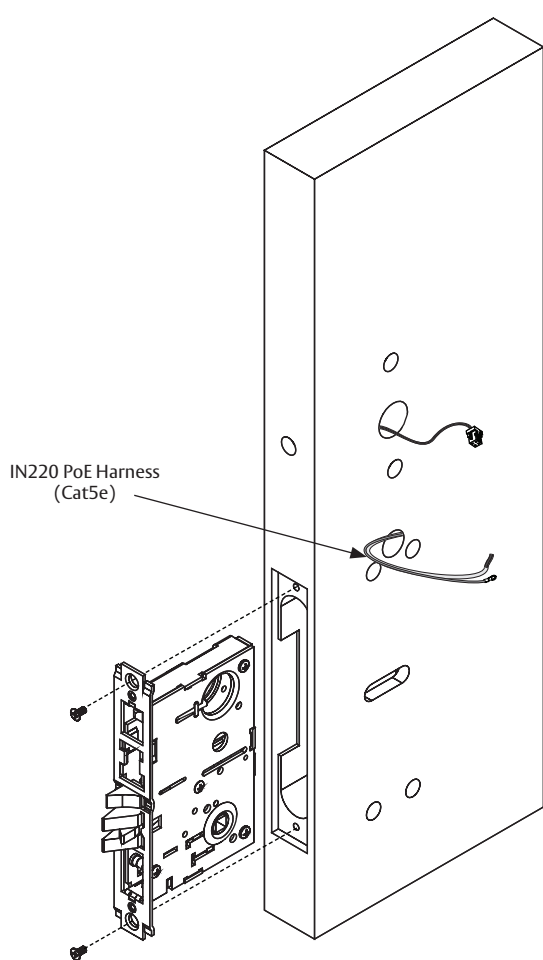

Figure 6-3A
2. Feed trim wire harness through wire harness hole. (Figure 6-3A)